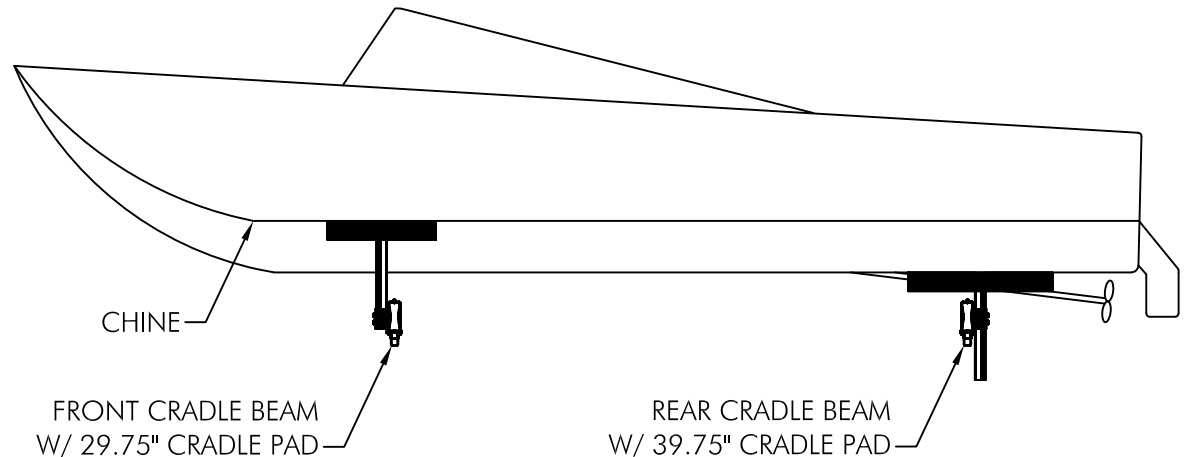

Fig. 2
□ If your lift doesn't have a canopy be sure to raise the bow to insure the water drains to the back of the boat. See Fig. 2 If in deep enough water and for boats with direct drive inboards be sure the cradle pads are adjusted high enough that in the case of float through, no part of the boat or drive unit comes in contact with the cradle beams. Adjust the height of the support tube and torque the 5/8 x 1" bolts to 70 ft./lbs.